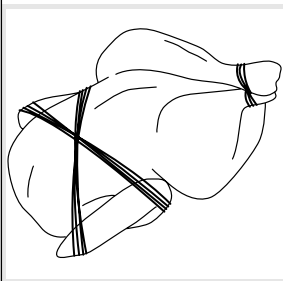

FIGURE 2
6. It is necessary to tie the wings and legs of poultry together with plain string or butcher's twine to prevent loose pieces from rubbing the inside of the door, heat shield or heating element as the spit rotates inside the Rotisserie. (*Figure 2*)